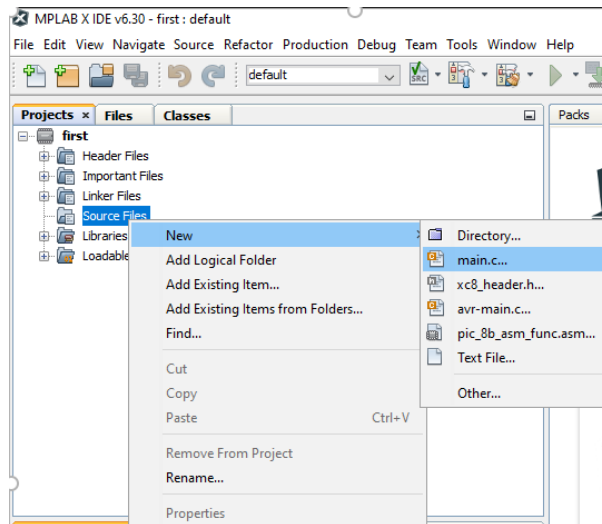

Fig 4.26 C program – main.c creation
22. Create a “main.c” as shown in Fig 4.26 by right clicking on “source files” --> “New” --> “main.c” in your “first” projects window.